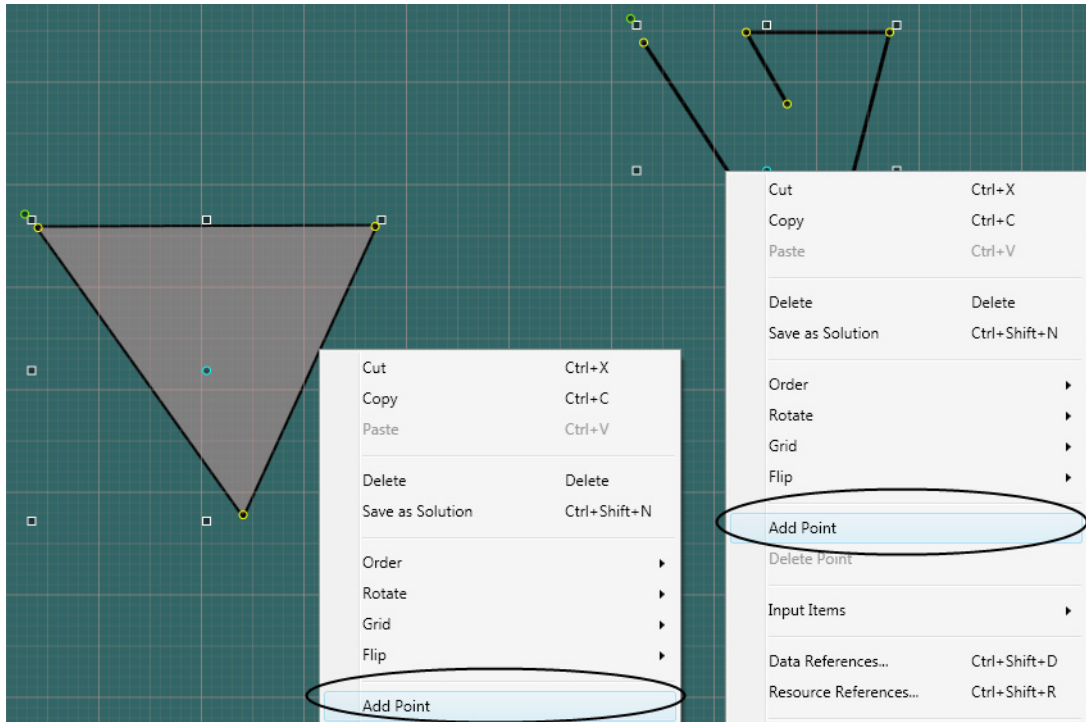

Figure 13. Context menu of a polygon/polyline
2. In the polygon, polyline, flexible pipe, or high performance pipe, right-click anywhere on line to add a new point to this existing line (see Figure 13).
2. To delete a point in polygon, polyline, flexible pipe, or high performance pipe, right-click the point (see Figure 13).